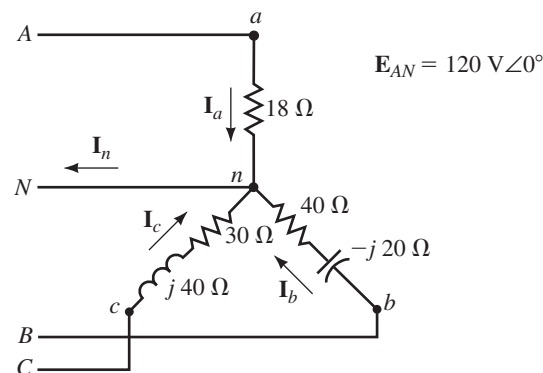

FIGURE 24-59
55. For Figure 24-59, compute the following: